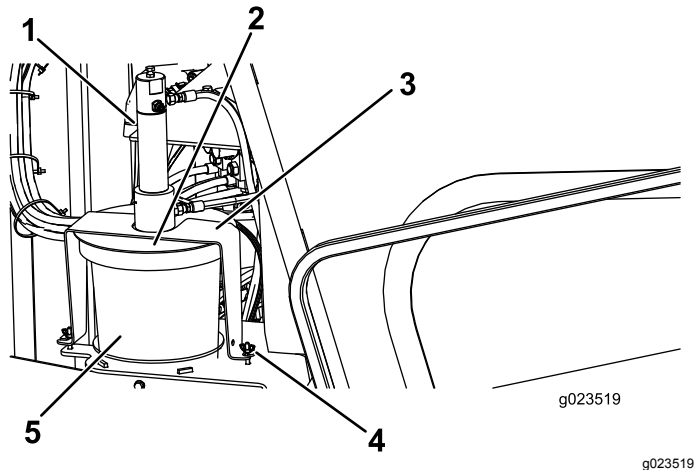

Figure 65
3. Loosen the wing nuts securing the cover straps to the machine (Figure 65).
4. Rotate the cover and pull the cover straps off the retaining bolts (Figure 65).
5. Lift the cover assembly off and out of the empty thread-joint-compound bucket (Figure 65).
7. Place the plunger into the new bucket and lower the cover assembly onto the bucket (Figure 65).
8. Slide the cover straps over the retaining bolts, and rotate the cover to seat the straps on the bolts (Figure 65).